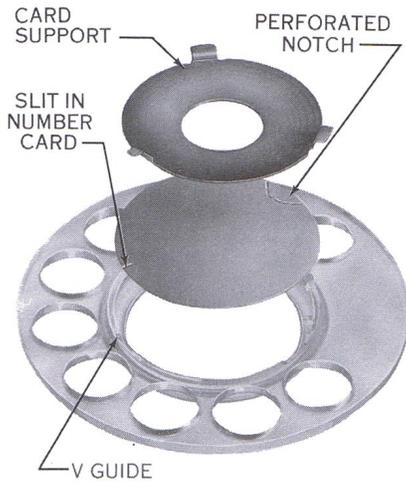

Fig. 9—Method of Placing Number Card in MD Plastic Fingerwheel
- (1) Place window in fingerwheel.
- (2) Line up slit in number card with the "V" guide on the fingerwheel (Fig. 9). Do not remove perforated notch on number card.
- (3) Push number card into place. This will force slit on card over the guide holding the number card in place.
- (4) Press card support into place.